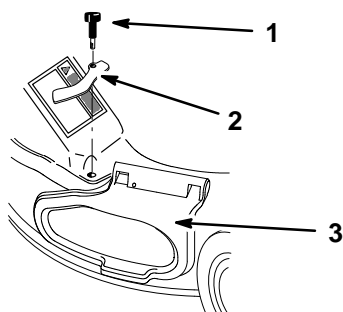

Figure 5
11. Secure the front, right corner of the discharge tunnel and the side opening cover with the side cover clamp removed previously and the long knob supplied with the grass catcher (Fig. 5)